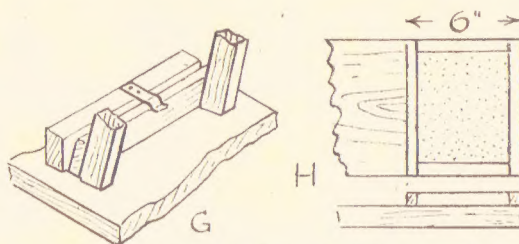

Fig. 3 - Holding clip for legs and the iron-rest
A metal spring catch is advisable, to keep the table, when opened out, in position. A simple affair this, and sketched in detail (G) Fig. 3. It is a short piece of steel or spring brass, screwed